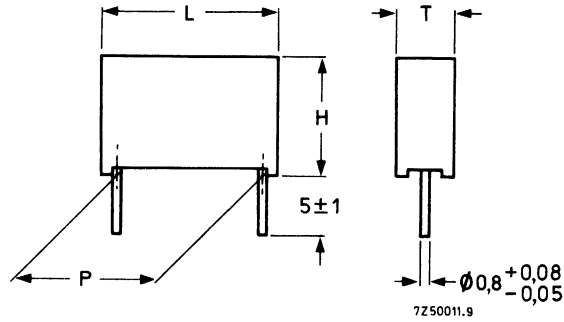

Fig. 1 Capacitors 2222 378.
Table 1 U_R (DC) = 250 V; rated AC voltage = 160 V; Fig. 1
Table 2 U_R (DC) = 400 V; rated AC voltage = 200 V; Fig. 1
Table 3 U_R (DC) = 630 V; rated AC voltage = 300 V; Fig. 1
Table 4 U_R (DC) = 1000 V; rated AC voltage = 400 V; Fig. 1
Table 5 U_R (DC) = 1600 V; rated AC voltage = 500 V; Fig. 1
Table 6 U_R (DC) = 2000 V; rated AC voltage = 600 V; Fig. 1